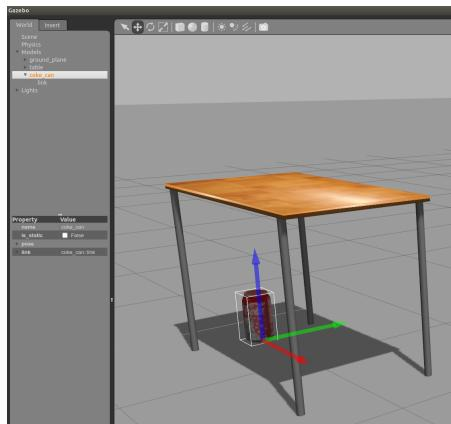

Figure 3.4: Moving an object on the simulation.
- 2.- With the simulation window active, press *T* on the keyboard. Then, click on the object under the table. You will see a coordinate frame attached to the object (see Fig. 3.4).